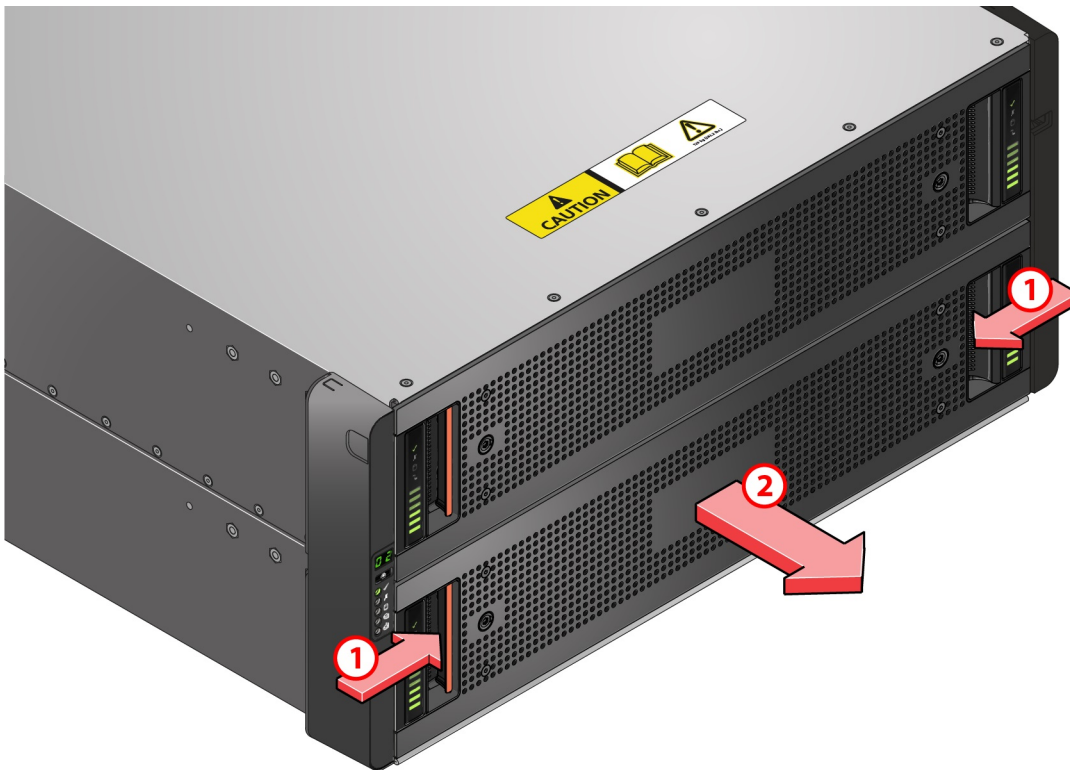

Figure 3. Open drawer
2. Push the drawer latches inward and hold them (see Figure 3).